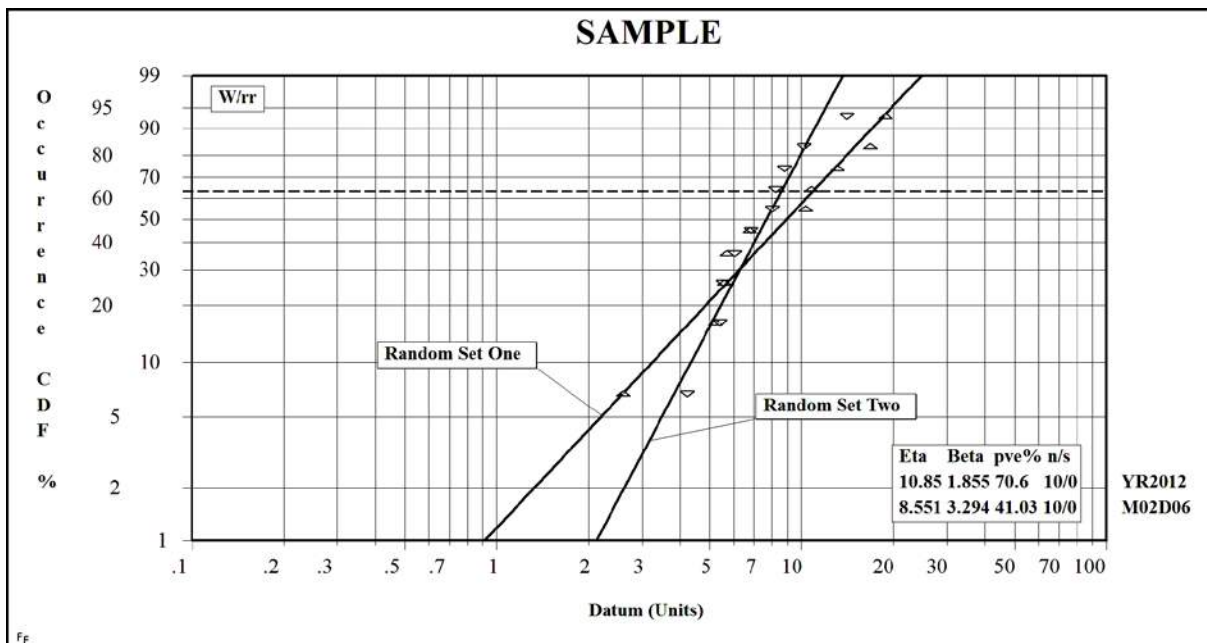

Figure 6: Quick Monte Carlo Plot
| Figure 6: Quick Monte Carlo Plot | 11 |
- D. With Home group still visible/active, repeat selecting <Enter> twice each time to get two or more different samples. You have a plot like Figure 6 showing sample scatter—later we’ll show the benefits of using this MC technique for serious work. SuperSMITH Weibull is configured for getting productive results quickly. In the Sample menu, you can change the model, change the quantity of data in a set, and change set quantity. With just a few selections, you’ve automatically filled the data grid and made a plot. This is one way to get a quick set of data for using the software, trying different analysis features, and getting familiar with software options.